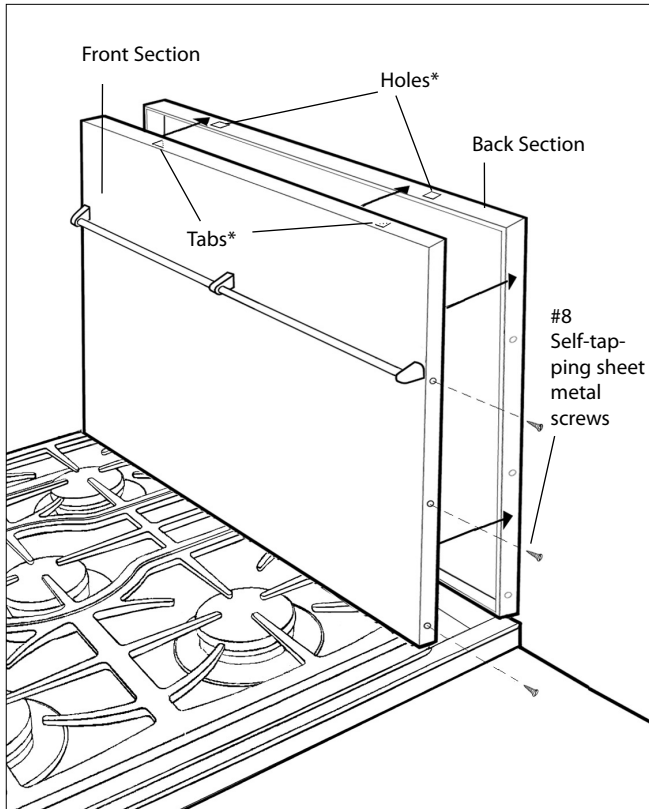

Fig.05
4. Bend wedge-shaped tabs down on top of the front section approximately 3/16". When mounting the front section, insure that these tabs engage the mating holes in the top of the rear section (see fig. 05, page 5).
5. Secure Front Section of backguard to the Back Section with #8 self-tapping sheet metal screws supplied (fig. 05, page 5).